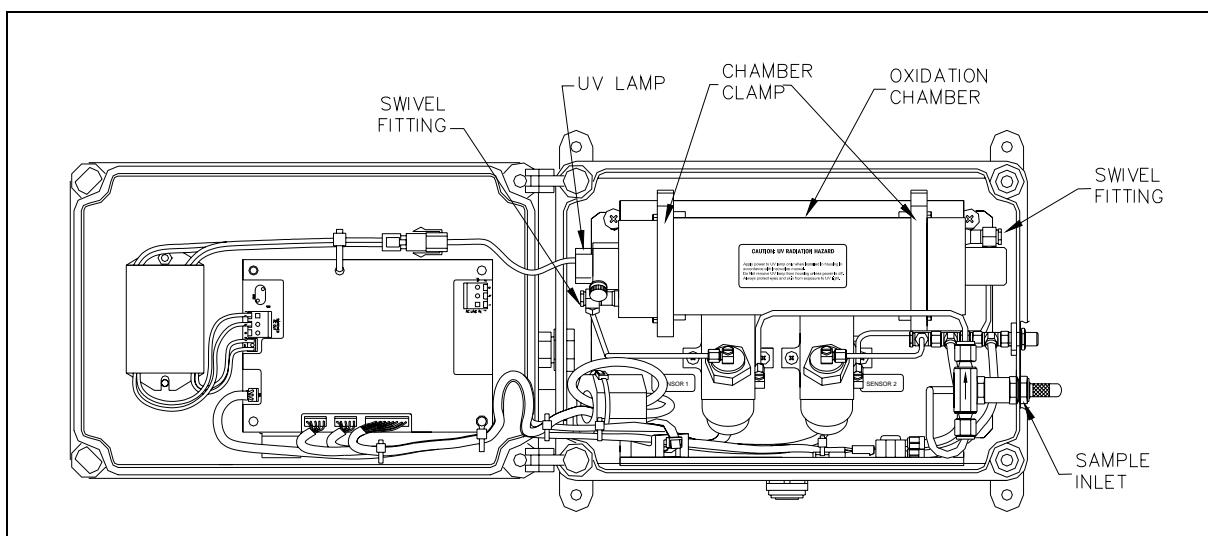

Figure 15. Oxidation Chamber Assembly.
6. Unsnap the Chamber Clamps on either end of the oxidation chamber assembly and slide them free of their mounting saddles. See Figure 15.